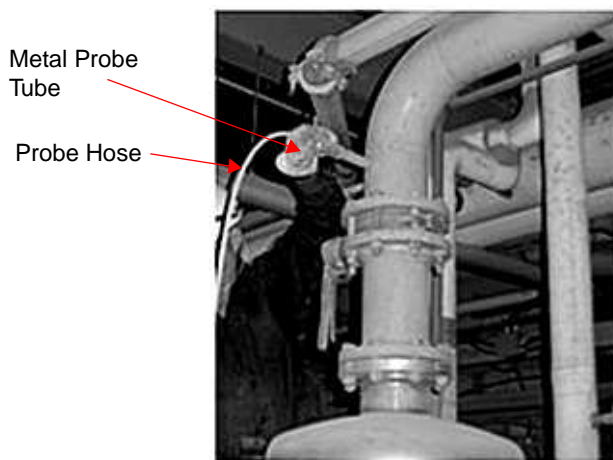
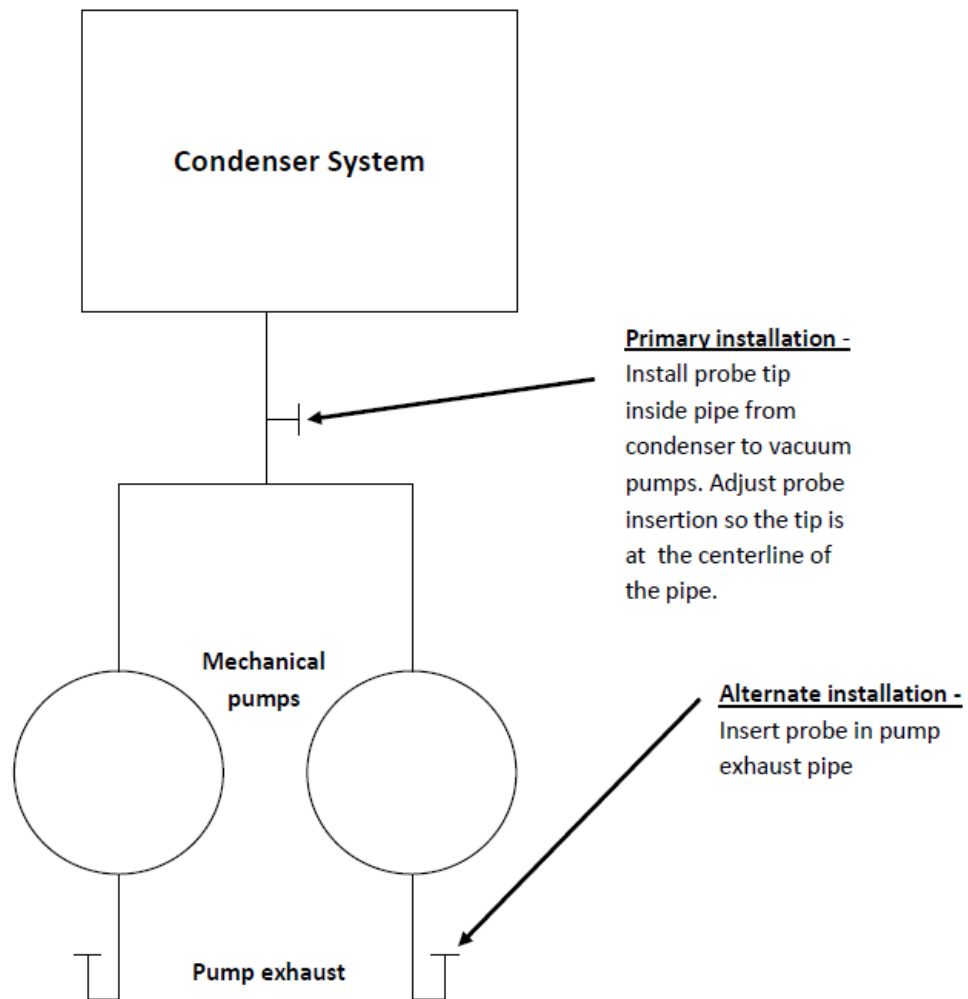

Figure 3 Connection To The System
Figure 7 Typical HE Probe Installation
3. Connect the stainless steel probe tube (Figure 3) to the condenser system using appropriate hardware to fit the local installation. The probe tube has an adjustable (sliding) ISO-25/NW25 flange adaptable to a wide variety of ASA or ISO flanges, threaded pipe adaptors, etc. for easy connection to condenser piping (See Figure 7 on page 10).
Alternately, remove the adaptor flange and insert the probe directly into the vacuum pump(s) exhaust used to evacuate the condenser system (See Figure 7 on page 10).